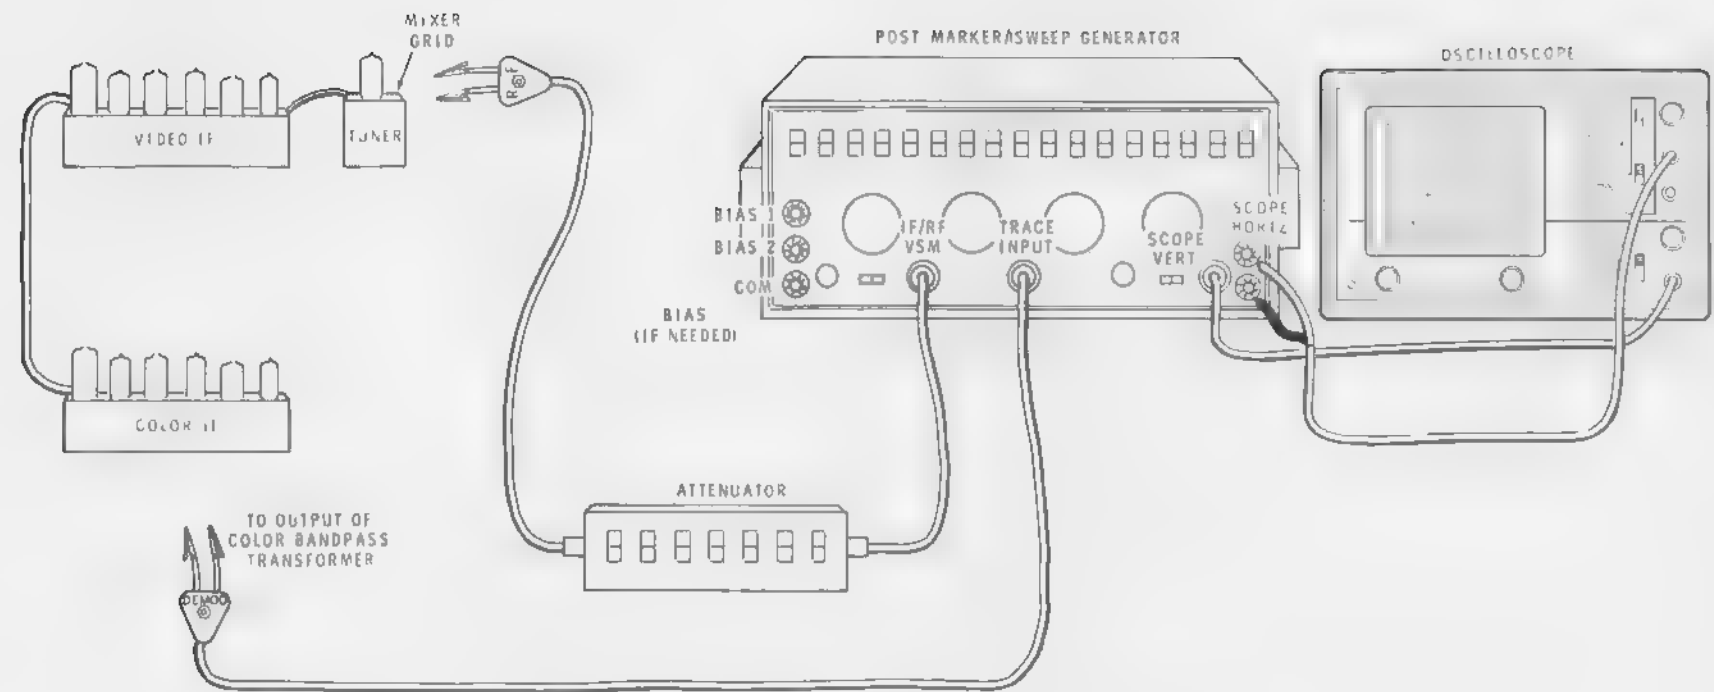

FIGURE 14
- () Connect the equipment as shown in Figure 14 (fold-out from this page).